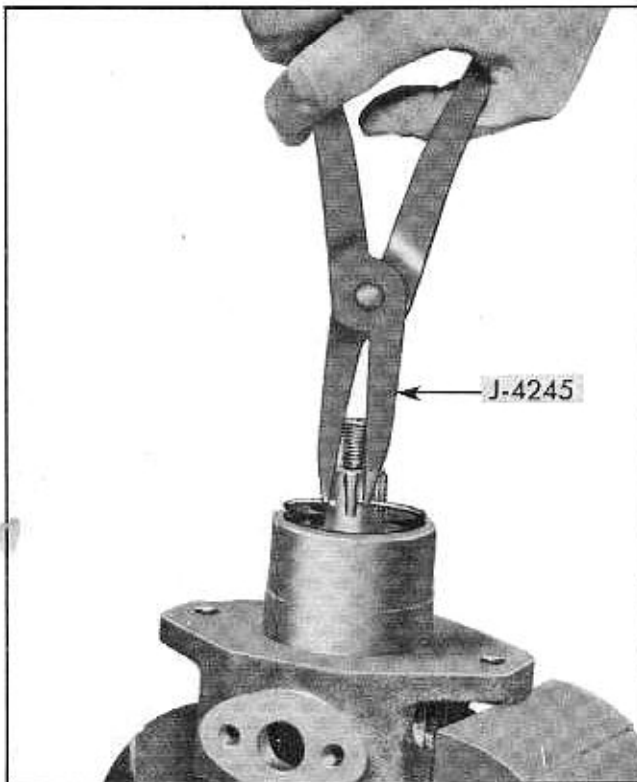

Fig. 9-78 Removing Bearing Retaining Rings
front hub of pump body using tool J-4245 (Fig. 9-78).
6. Install shaft bearing retainer snap ring, using tool J-4245 (Fig. 9-78).